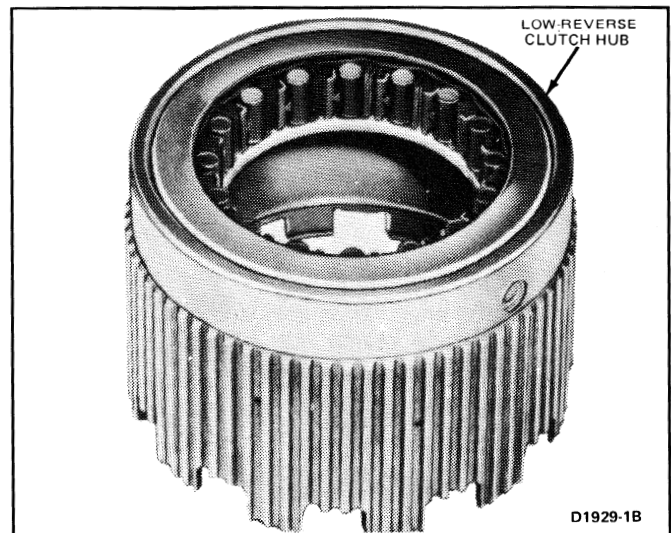

FIG. 58 One-Way Clutch Installed
2. Place the low-reverse clutch hub on the bench with the forward end down (Fig. 58).